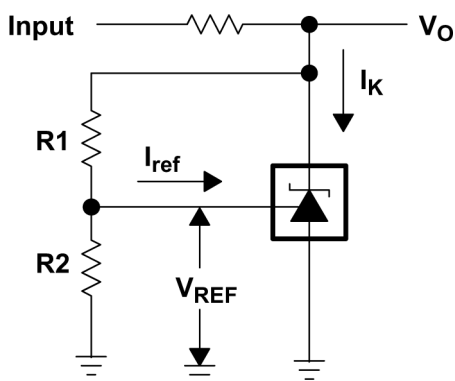

図 6-2. Test Circuit for $v_{KA} > V_{REF}$, $V_O = V_{KA} = V_{REF} \times (1 + R1/R2) + I_{ref} \times R1$
(3) The dynamic impedance is defined as $|z_{KA}|$. When the device is operating with two external resistors (see Figure 6-2), the total